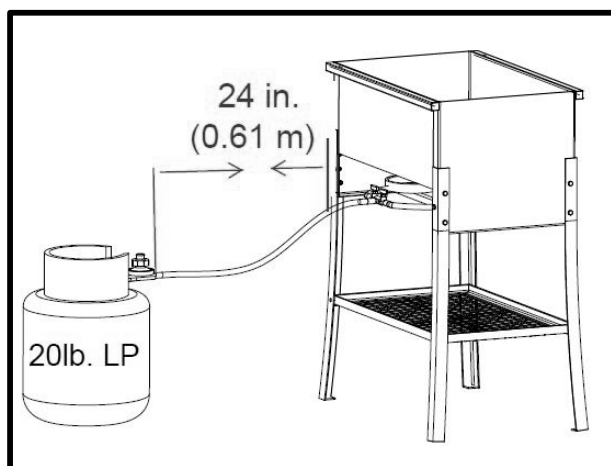

FIG.8
- Always keep the tank at least 24 INCHES from the fryer (see FIG.8).